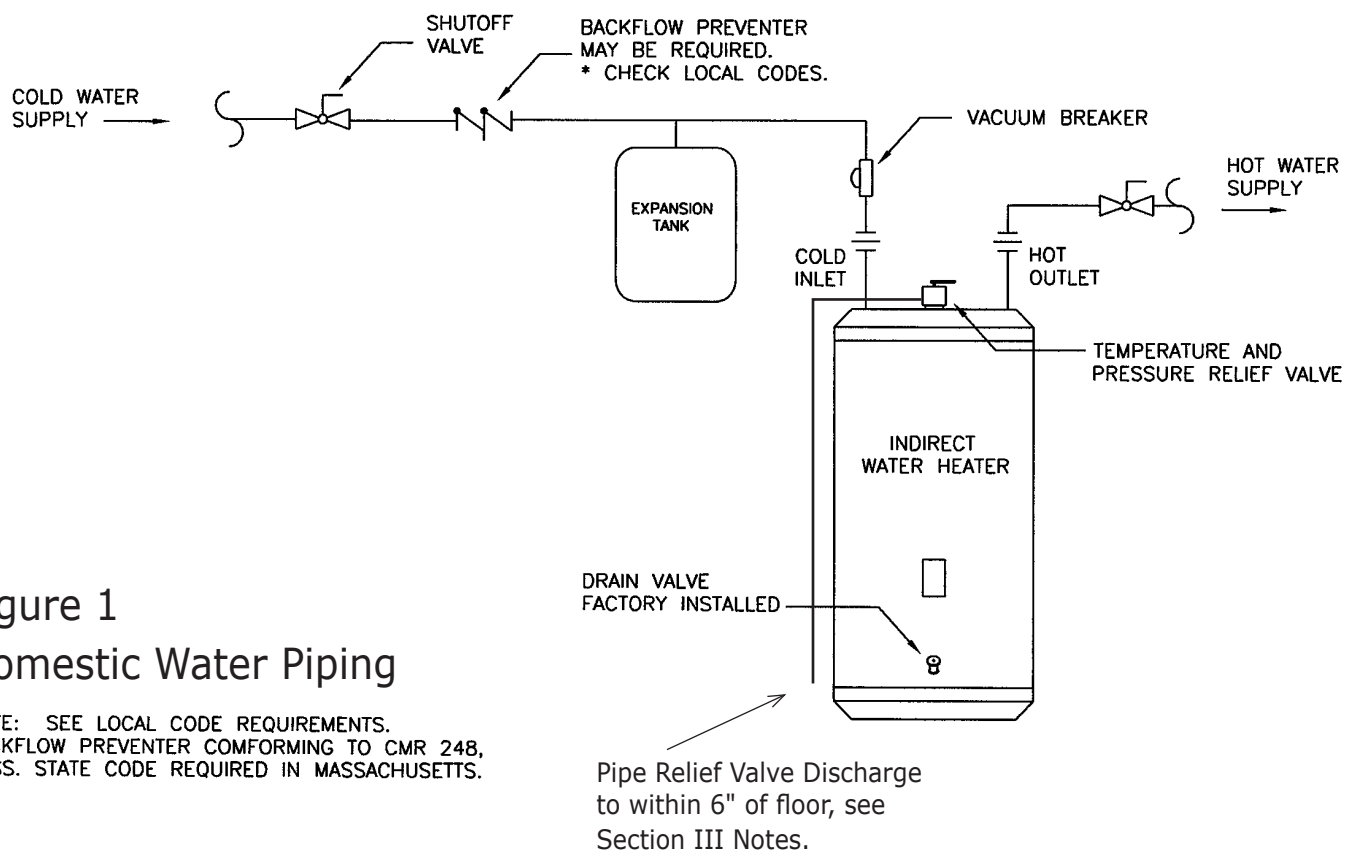

Figure 1
A. Domestic water piping. See Figure 1.